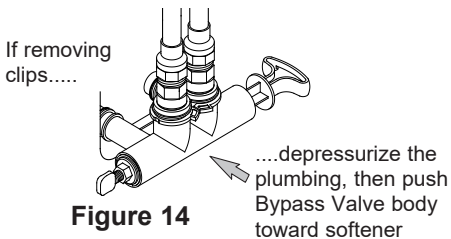

Figure 14
5. Check for leaks around clips at softener's inlet and outlet. If a leak occurs at a clip, depressurize the plumbing (turn off the water supply and open faucets) before removing clip. When removing clips at the softener's inlet or outlet, push the single bypass valve body toward the softener (see Figure 14). Improper removal may damage clips. Do not reinstall damaged clips.